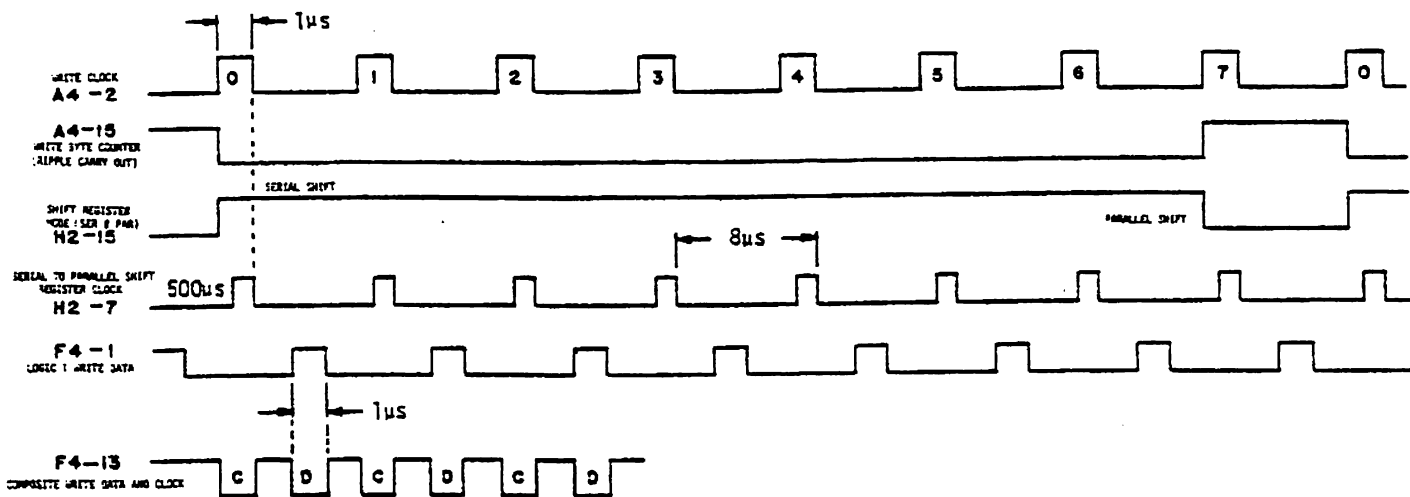

Figure 4-11. Write Circuit Timing
The Write Clock + Data Window Generator, A3, is enabled by the 1MHz Clock pulse (zone D8) at A3 pin 2. The 1MHz clock is derived by dividing the 2MHz Clock by 2 at J4 pin 9 (zone A4). In addition to clocking A3 pin 2, the 1MHz Clock is also present at F3 pin 3 (zone D6). On the eighth 1MHz Clock pulse, occurring every 8 $\mu$ s., A3 pin 15 (RC) is HIGH for 1 $\mu$ s and, after being inverted LOW by B4 pin 6 (zone D4), is present at F3 pin 2. When the 1MHz Clock pulse goes LOW at F3 pin 3, F3 pin 1 is enabled HIGH, clocking H2 pin 7. When H2 pin 15 (SHIFT/ $\overline{LD}$ ) is HIGH, WRITE DATA is shifted serially out on H2 pin 12 (SERIAL DATA OUT). If a logic 1 is being written, the HIGH at H2 pin 13 is inverted by B4 pin 10 (zone D4) and Serial Write Data appears LOW to F4 pin 3 (zone D3). When AOUT and BOUT are HIGH, and COUT is inverted HIGH by G2 pin 6 (zone D4), E4 pin 6 (zone D3) is enabled LOW. F4 pin 1 (zone D3) is enabled HIGH, insuring F4 pin 13 is LOW (refer to Figure 4-11 and 4-12), and the Disk WRT DATA (Write Data) input is enabled through line driver K3 pin 9 (zone D2). The Write Data Windows (zone D3) are developed halfway between the write clocks which are generated every 8 $\mu$ s.